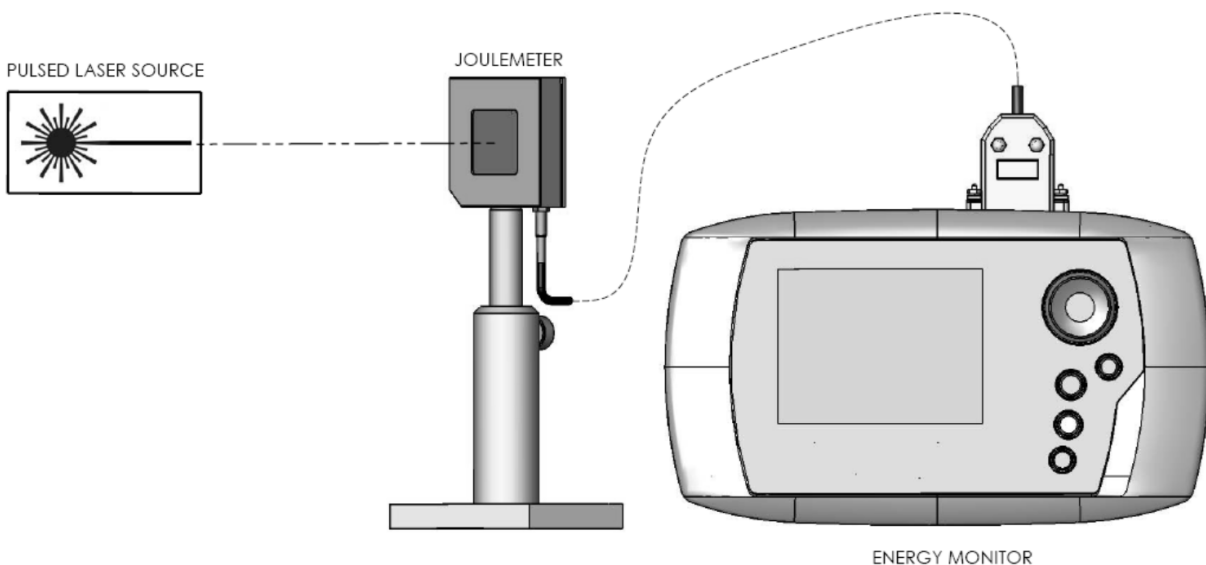

Fig. 2-1 Measurement setup
- 2- Connect the joulemeter to the Gentec-EO laser energy monitor (see Fig. 2-1).